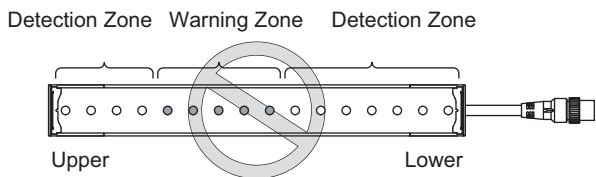

Figure 5
If 2 or less beams are interrupted, safety output is not turned OFF. (Figure 5)
- A warning zone is specified without including any of end beams (figure 5)